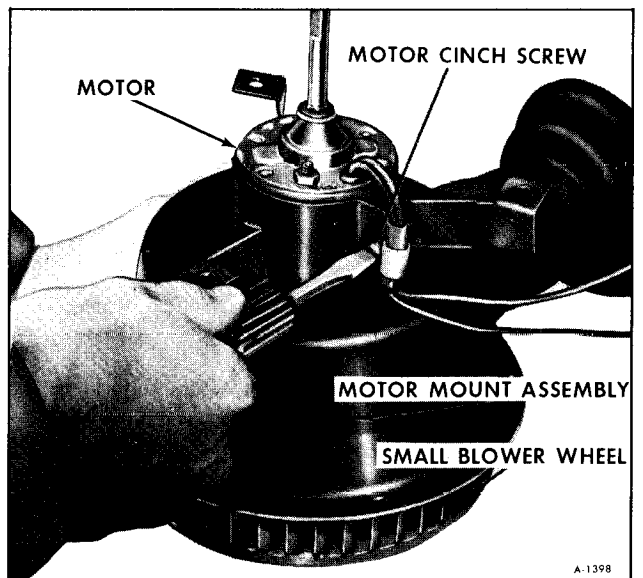

Figure 32—Removing Motor Cinch Screw
9. Loosen motor cinch screw and push motor and small blower wheel out of motor housing (See figure 32).
1. Position motor in motor mount assembly. Tighten cinch screw (figure 32).